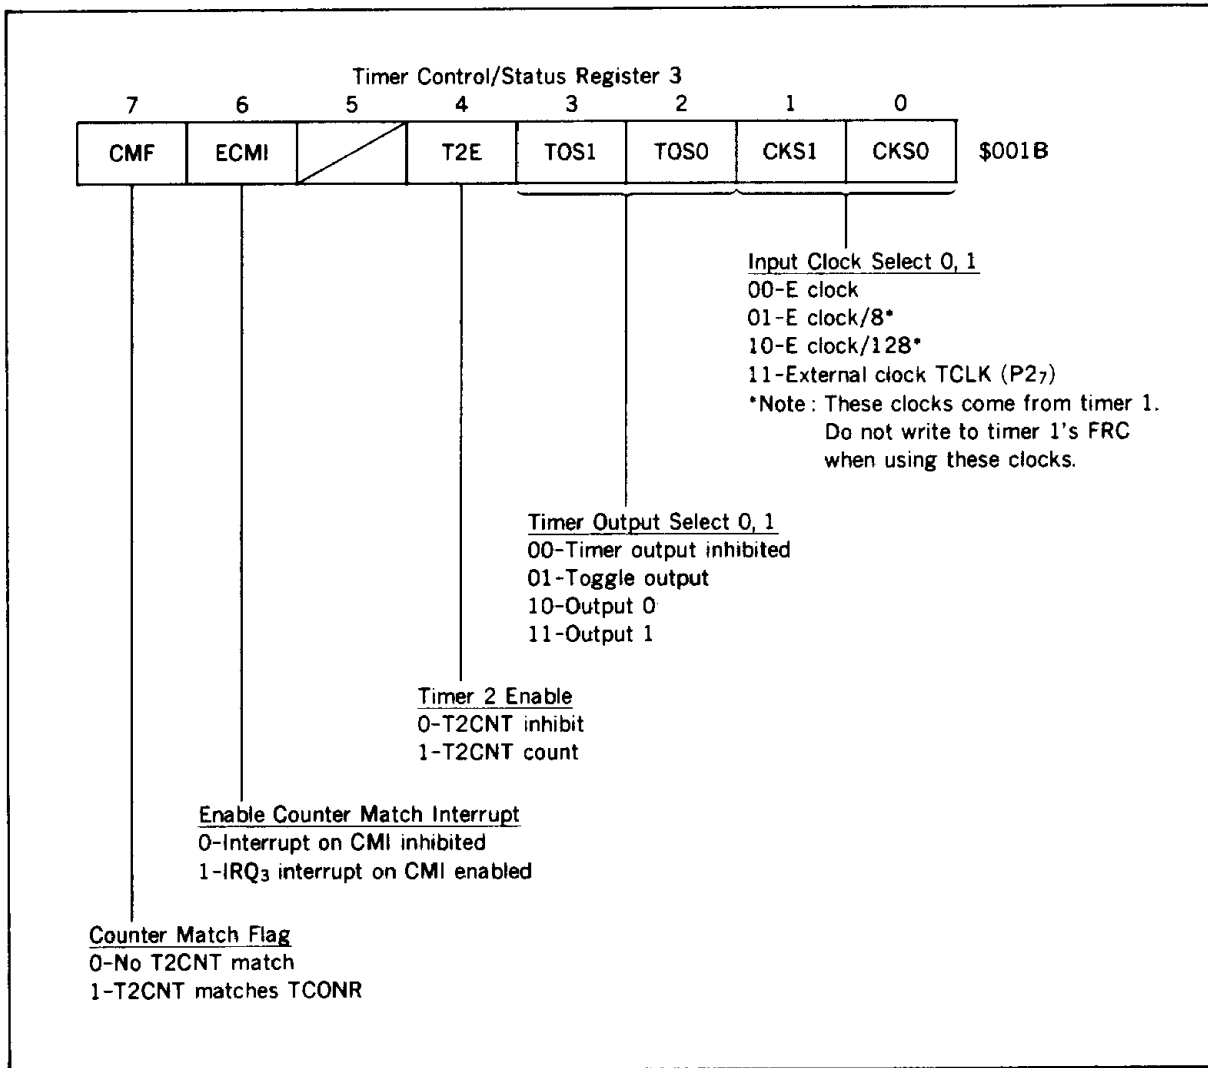

Figure 30. Timer Control/Status Register 3
**Timer Control/Status Register 3** : Timer control/status register 3 (TCSR3: \$001B; figure 30) is a 7-bit register. All bits can be read and all bits except for bit 7, CMF, can be written to. CMF can only be cleared, not set. The TCSR3 is cleared at reset.
- **CKS0, CKS1**: CKS0 and CKS1 select timer 2's input clock as shown in figure 30. When an external clock is selected, P27 will be the clock input automatically.
- **TOS0, TOS1**: TOS0 and TOS1 select the output that occurs on a counter match as shown in figure 30.